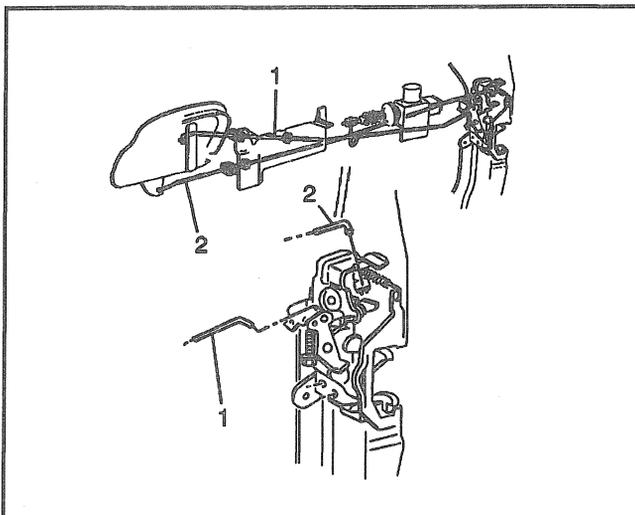

Figure 71—Inside Rear Side Door Handle and Lock Control Rods
↔ Remove or Disconnect (Figures 71 and 72)
4. Inside door handle and lock control rods (Figure 71).
↔ Install or Connect (Figures 71 and 72)
3. Inside door handle and lock control rods (Figure 71).